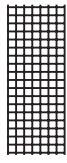
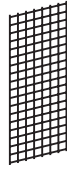
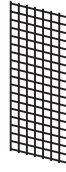
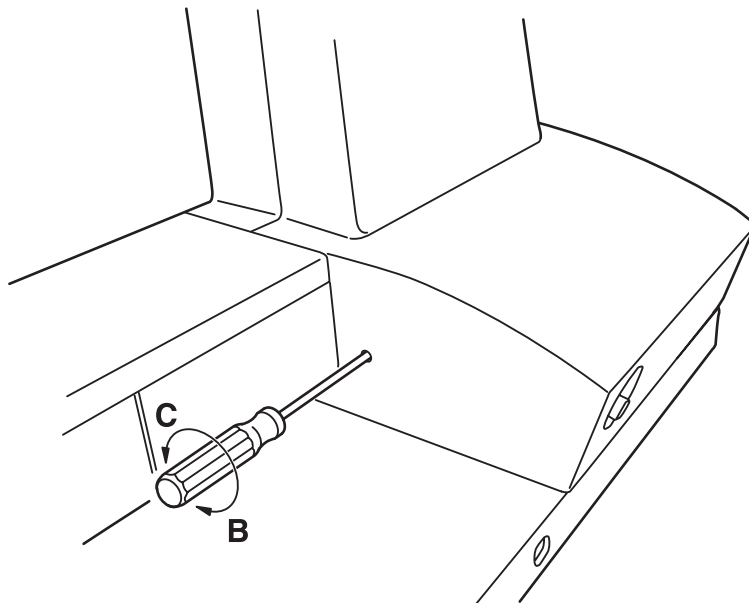

Fig. 51
Fig. 52
Fig. 53
Fig. 55
The darning program must be sewn as an exact rectangle (fig. 51) and not as a rhombus (fig. 52 and 53).
- If the adjusting program „198“ was sewn according to fig. 52, turn the adjusting eccentric with a screwdriver just 2 to 4 degrees in direction „A“ according to fig. 55.
- If the adjusting program „198“ was sewn according to fig. 53, turn the adjusting eccentric according to fig. 55 just 2 to 4 degrees in direction „B“.